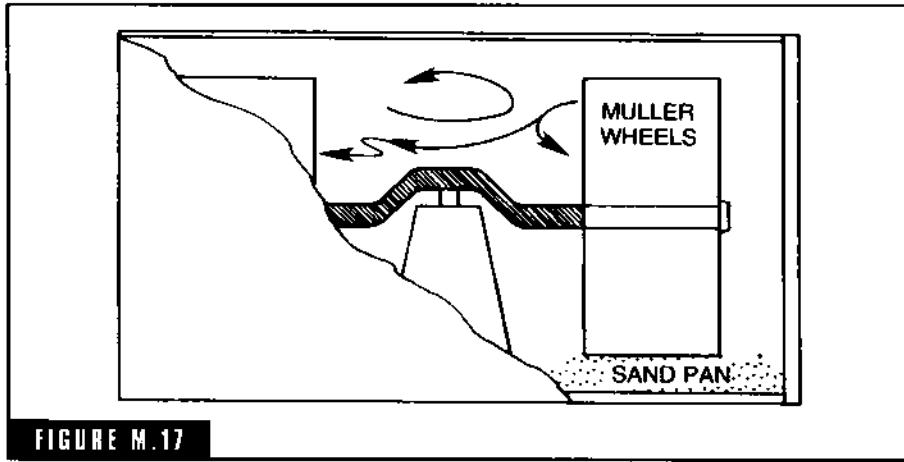

FIGURE M.17
**muller** A sand mixing machine which conditions and mixes the sand by the mulling action of one or more large flat-face wheels rotating in a tub, but not touching the bottom (Fig. M-17). Plows direct or